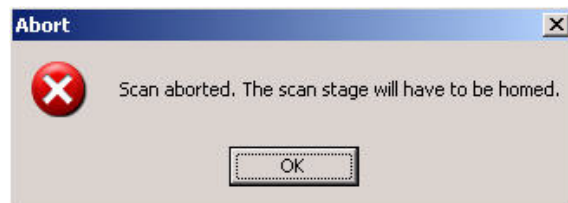

Figure 6.4: Message displayed after aborting a scan using the *Esc* key.
1. **Press** the *Esc* key to abort a scan at any time during the scan. A message will be displayed telling the user to *Home* the scan stage before continuing (see Figure 6.4).